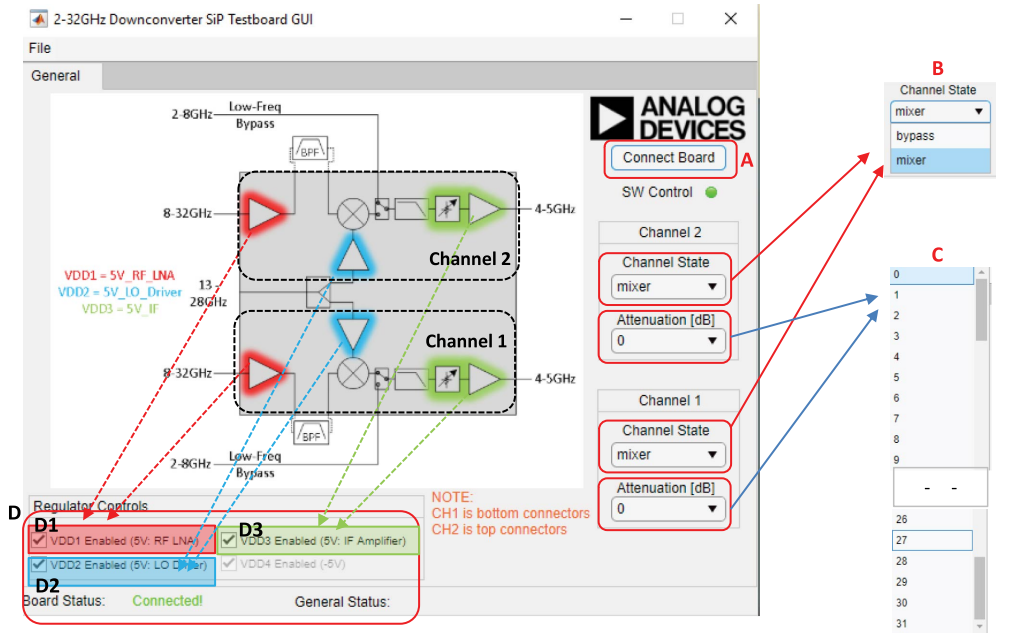

Figure 8. ADMFM2000 GUI Block Diagram
2. Click **Connect Board** (Label A, see Figure 8).
3. Select and adjust from the dropdown menus in the **Channel State** (Label B), **Attenuation [dB]** (Label C), and **Regulator Controls** (Label D), respectively, as shown in Figure 8, if necessary.